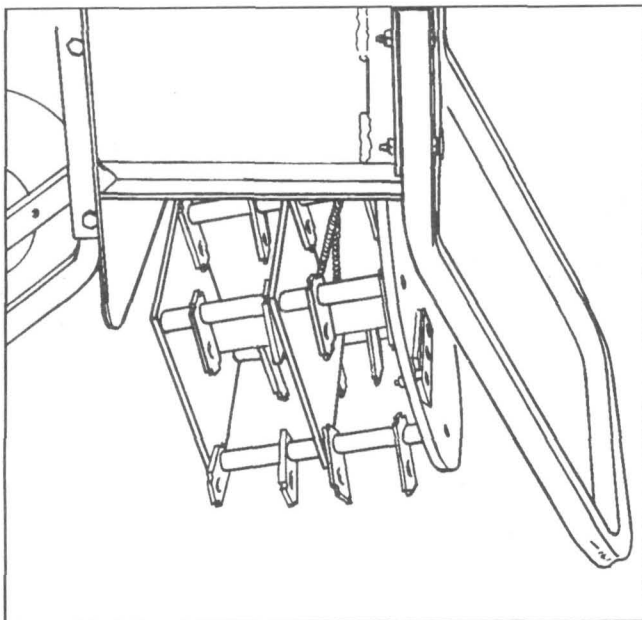

Fig. 16
B. Position the main frame over the cylinder assembly, making sure that the chipper blade on the cylinder flywheel is facing the chipper chute side of the main frame (see Fig. 16).
C. If the clothesline was removed, retie it around one of the cylinder pins just behind the flywheel as described previously (see Fig. 16).